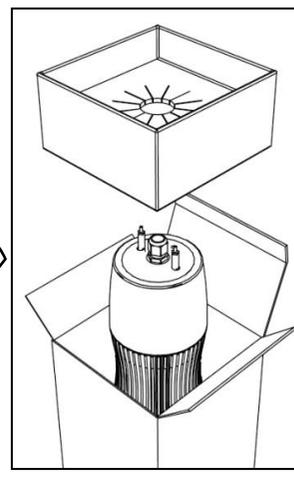

Fig. 7
8. Unpack the suspended body. (fig.7)